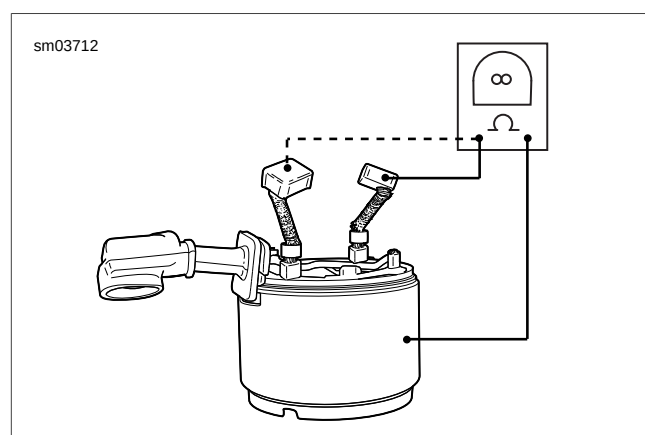

Figure 1-15. Grounded Field Test
3. See Figure 1-15. Check for a GROUNDED FIELD COIL WINDING with an ohmmeter or continuity tester.